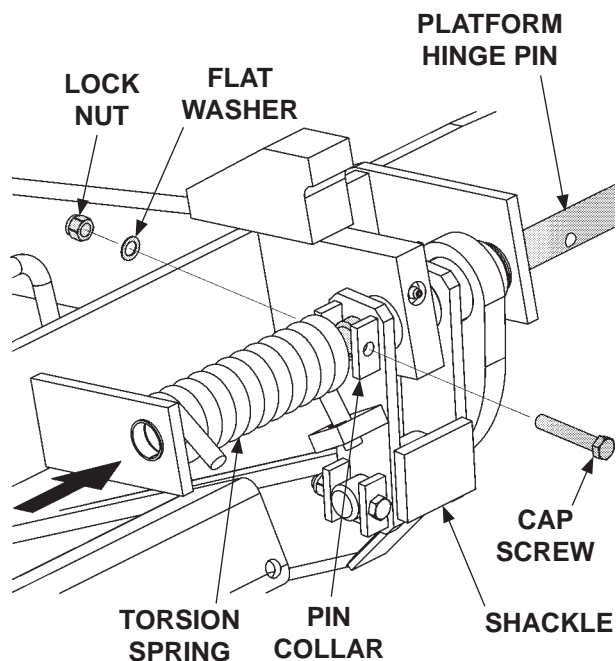

FIG. 21-1
4. Remove cap screw, flat washer and locknut from pin collar on the platform hinge bracket. Drive the platform hinge pin outboard from the shackle just enough to free the torsion spring (FIG. 21-1). Remove torsion spring.